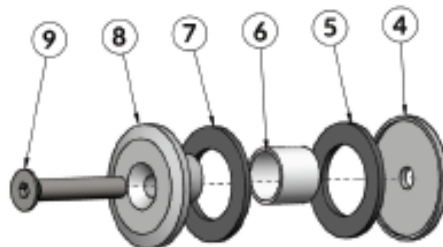

FIG.23
- Separate parts 4 through 6 (bush) from parts 7 through 9 (hub) (FIG 23).